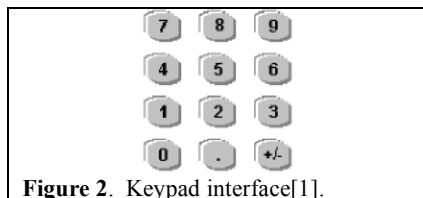
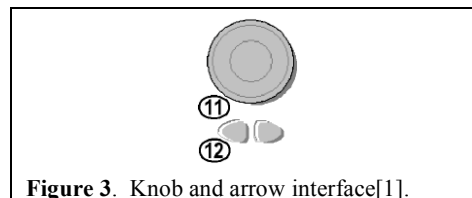
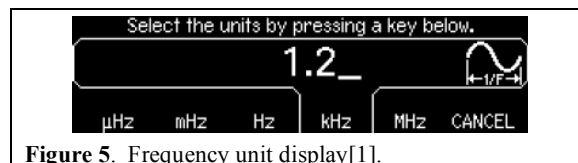

Figure 2. Keypad interface[1].
Figure 3. Knob and arrow interface[1].
Figure 5. Frequency unit display[1].
Two methods are available to the user to change the frequency or period of the output: direct input through the keypad (shown in Figure 2) and relative input through the knob (shown in Figure 3).
2. Enter the numeric value via the keypad (Figure 2 above). Select the appropriate unit depending on the definition method by pressing the dynamic button beneath the display as presented in Figure 5.